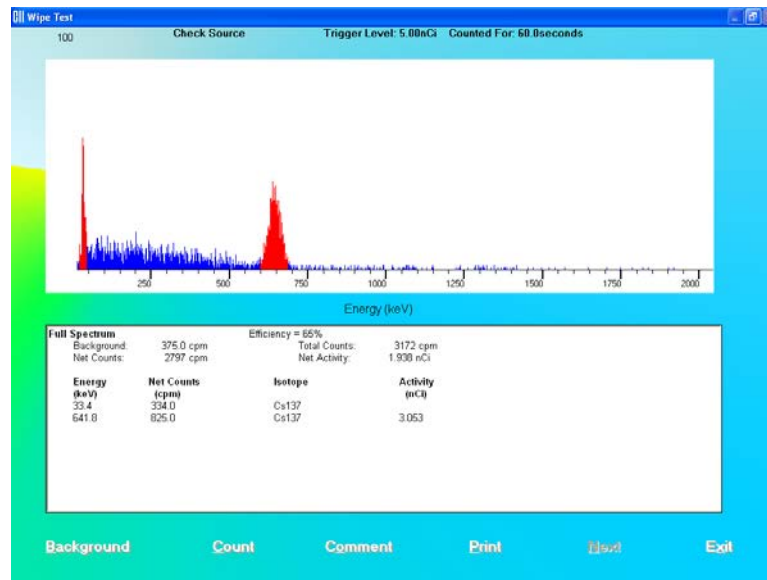

Figure 8-21
- Once the measurements are completed and accepted, the spectrum and the results are displayed similar to that shown in Figure 8-21.